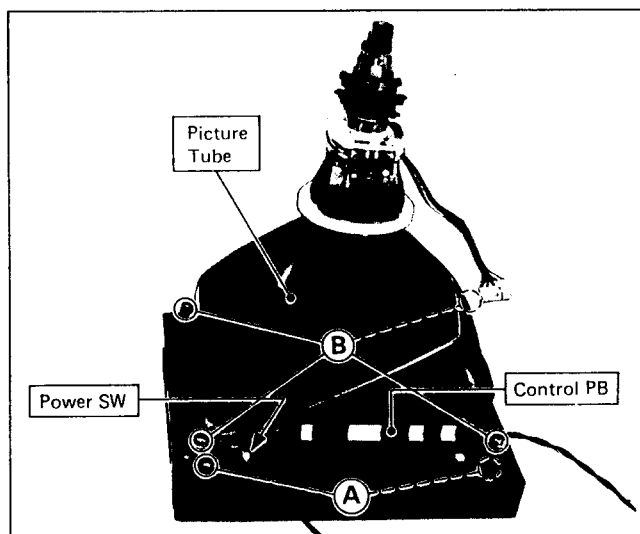

Fig. 7-7
While keeping the front panel demounted (Condition of Fig. 7-7), detach the control PB and the power SW by removing the two screws (A) shown in Fig. 7-7.
While keeping the front panel demounted (Condition of Fig. 7-7), detach the picture tube by removing the four screws (C) shown in Fig. 7-7.